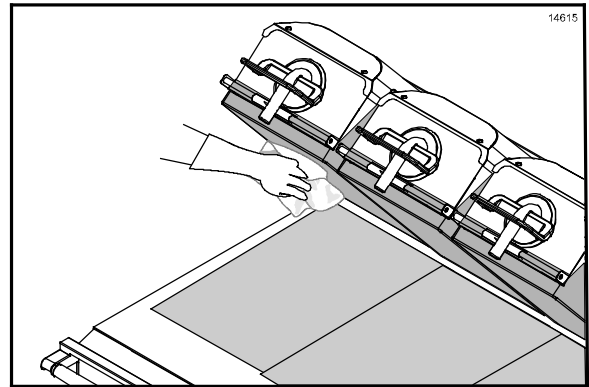

Figure 42
11. Use the grill cloth dampened with grill cleaner to clean the exposed surfaces of the upper and lower release sheets. (See Figure 42.)